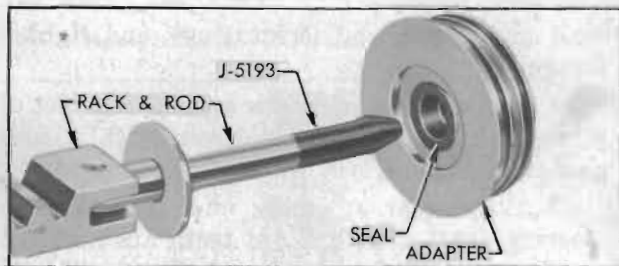

Figure 7-33—Application of Rod Inserter J 5193
18. Install new "O" ring seals in both grooves of power cylinder adapter. Place stop plate on piston rod, then install Rod Inserter J 5193 to protect the seal as rod is pushed through seal and adapter. See figure 7-33. Install thrust washer, piston with rings, thrust washer, and safety nut on piston rod and tighten securely.